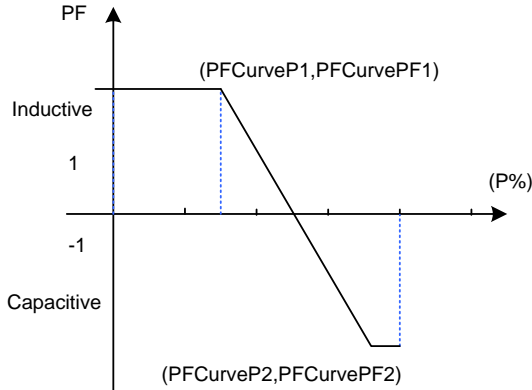

Figure 6-20 PF(P) Curve Mode
PF(P) Curve: PF curve mode. Note: The power factor changes according to the power change, as shown in Figure 6-20.